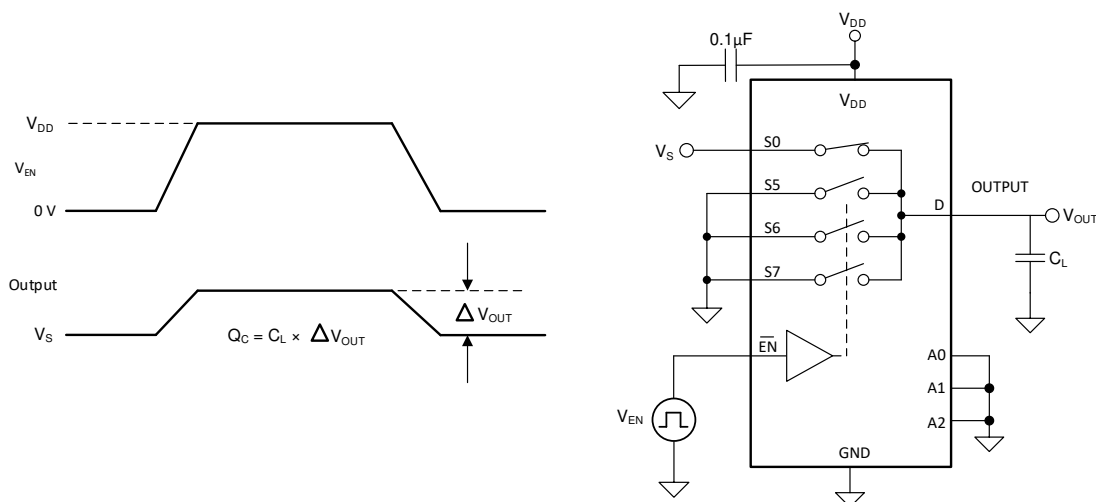

Figure 7-7. Charge-Injection Measurement Setup
The TMUX1308A and TMUX1309A device have a transmission-gate topology. Any mismatch in capacitance between the NMOS and PMOS transistors results in a charge injected into the drain or source during the falling or rising edge of the gate signal. The amount of charge injected into the source or drain of the device is known as charge injection, and is denoted by the symbol  $Q_C$ . Figure 7-7 shows the setup used to measure charge injection from source ( $S_x$ ) to drain (D).